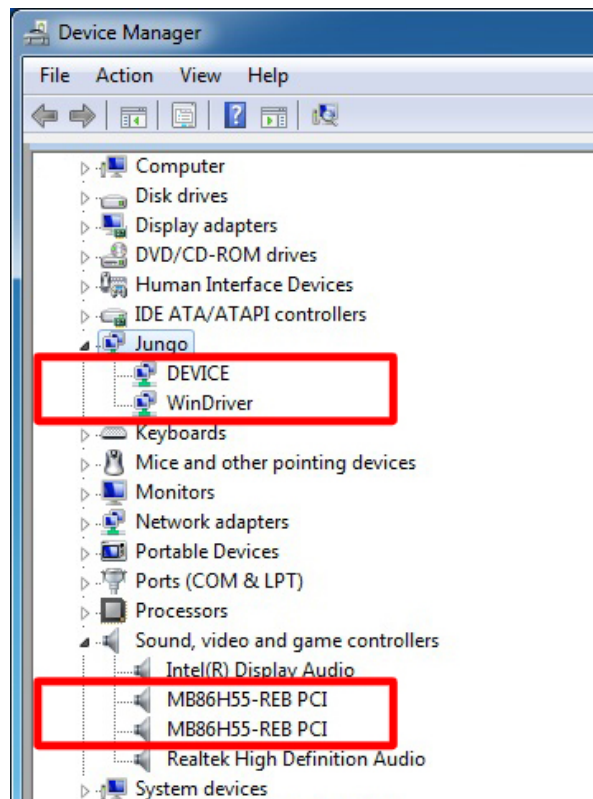

Figure 3-8: Device Manager – 64-bit OS
**Step 6:** Check the device manager in the Windows control panel to ensure the driver (MB86H55-REB PCI, DEVICE and WinDriver) has been properly installed. See **Figure 3-8** for the details.